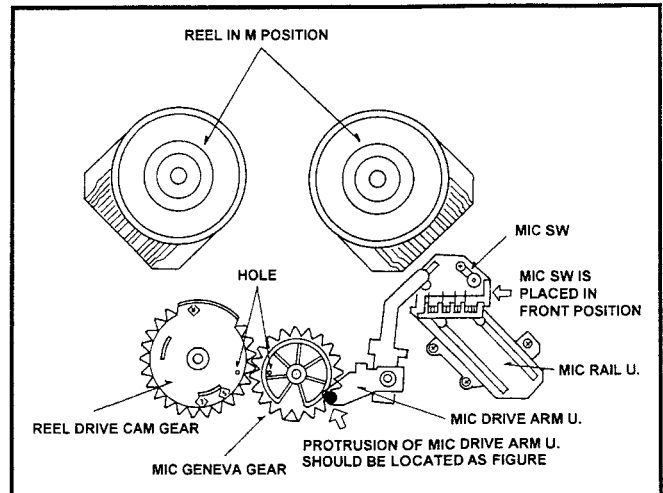

Fig. 6-22-2 Gear Phase Adjustment
4. Place the MIC SW in front position on MIC Rail Unit by rotation of MIC Geneva Gear, and then MIC Geneva Gear should be positioned as shown in Figure 6-22-2.
Note: Protrusion of MIC DRIVE Arm Unit is positioned as shown in Figure 6-22-2.
5. Install the Reel Drive Cam Gear and hole of Reel Drive Cam Gear should be matched with the hole of MIC Geneva Gear as shown in Figure 6-22-2.
6. Install the Cut Washer (A), (B) and (C) as shown in Figure 6-22-2.
- 3) Portrusion of MIC Drive Arm Unit is positioned as shown in Figure 6-22-2.